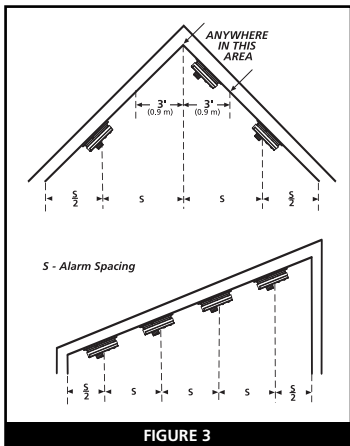

FIGURE 3
- The most favorable mounting location for a heat alarm is on the ceiling in the center of the room. At this location the alarm is closest to all areas of the room (see figure 3).
- If the alarm cannot be located in the center of the room, an off-center location can be used on the ceiling. When off center mounting an alarm on the ceiling, locate it at a minimum of 4" (10 cm) from the side wall (see figure 3).
of alarms shall be spaced and located within 3 ft (0.9m) of the peak of the ceiling measured horizontally" (see figure 3).